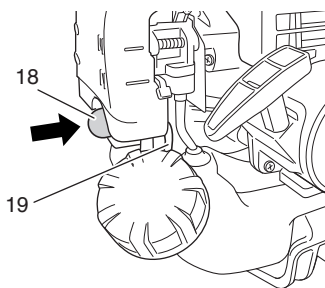

Fig. 14
- * Push priming bulb (18) several times so that fuel flows through return pipe (19). (Fig. 14)